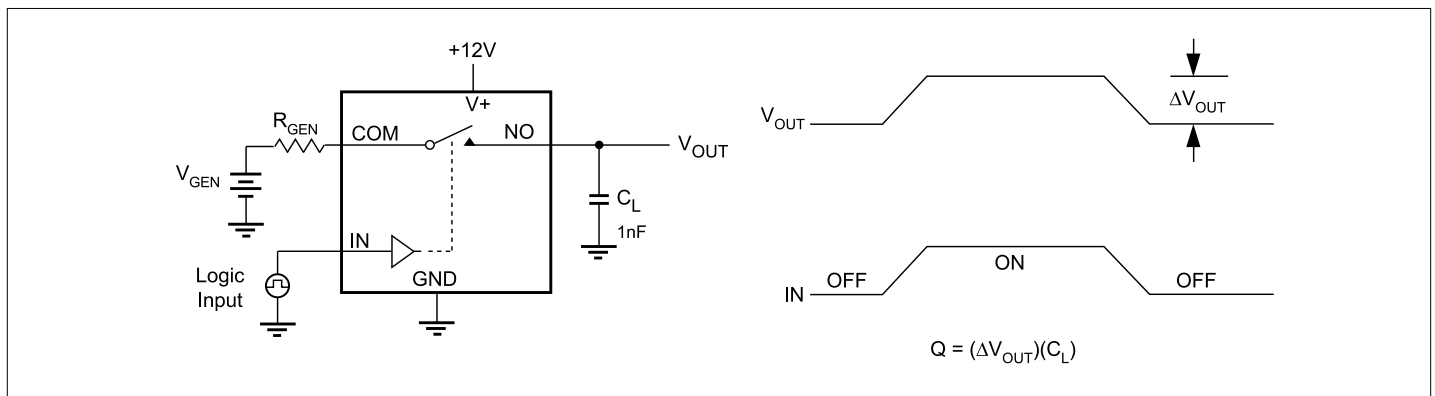

Figure 3. Charge Injection
| Charge Injection (3)       | Q                     | C L =1nF, V GEN = 0V, R GEN = 00hm, Figure 3 |           |                    | 2                  | 10                 | pC    |
| Charge Injection (3)                     | Q                     | C L = 1nF, V GEN = 0V,R GEN = 0V, Figure 3 | 25                |                    | 1                  | 10                 | pC    |